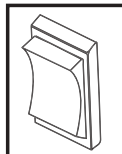

Figure 13. Power Seat Switch (With No Markings)-Activates The Power Seat Actuator
1. To raise the power seat, press and hold the upper part of the switch. Release the switch when you have attained your desired height or upon reaching the highest position. See figure 13.